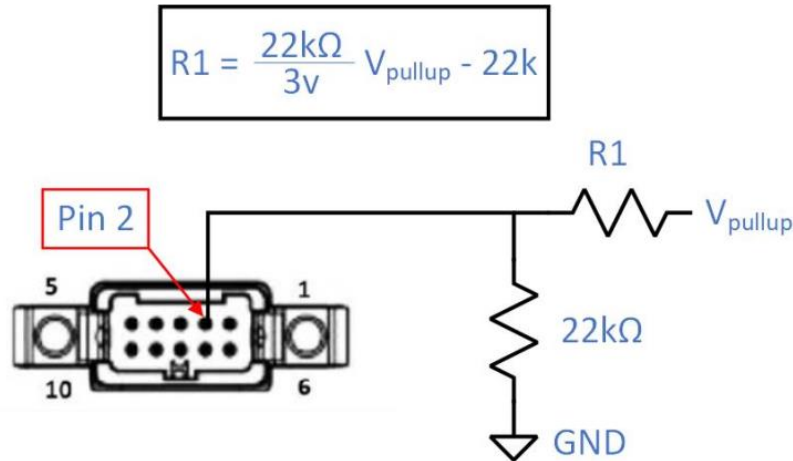

Figure 5.2.
- For KERNEL-108/110/120/210/220 – BOOT pin has internal 10K pull-down resistor to supply return. Leave floating if not used. Device enters a firmware update state if BOOT pin is held at logic high (3.3V) when supply power is applied. If driving voltage is higher than 3.3V use a resistive divider as Figure 5.2 shows.